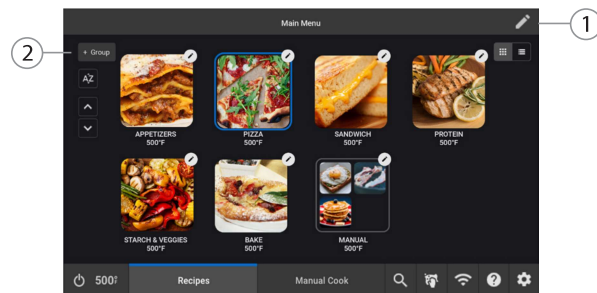

Figure 18: Edit Mode: Create Group
1. Touch the Edit button in the top-right corner of the screen (Figure 18, above).
2. Touch the “+Group” button (Figure 18, above).